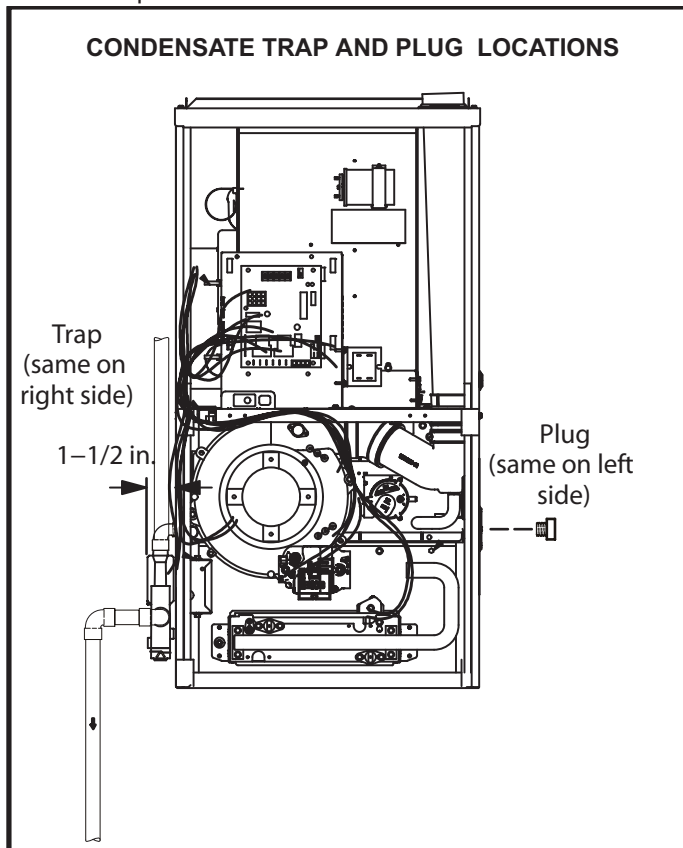

FIGURE 38
This unit is designed for either right or left side exit of condensate piping in downflow applications. Refer to Figure 38 for condensate trap locations.
2. Remove plug (Figure 38) from the cold end header box at the appropriate location on the side of the unit. Install field-provided 1/2 NPT male fitting into cold end header box. Use Teflon tape or appropriate pipe dope.